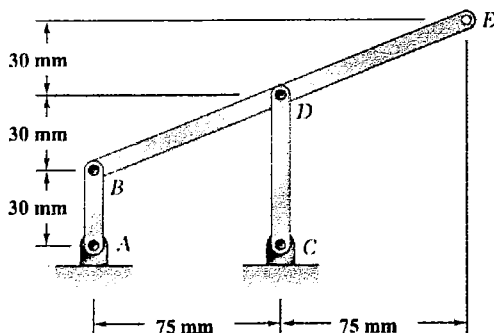

Fig. 3
- (3) (Please see Fig. 3) At the instant, rod AB has a constant angular velocity of 10 rad/sec clockwise. Please determine: (a) the angular acceleration of rod BDE (10%); (b) the acceleration of point D (10%); (c) the acceleration of point E (5%).